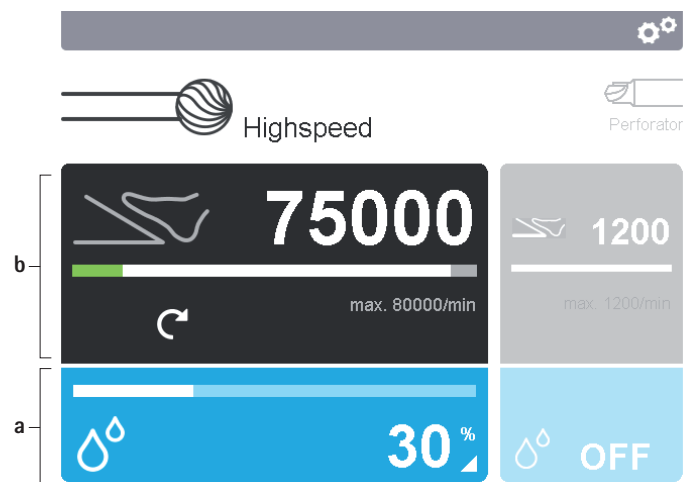

Fig. 5 Activating the control panel
- ▶ Changing the setting parameters of the applied part: Activate the applied part control panel **b** in the display **2**, see Fig. 5.